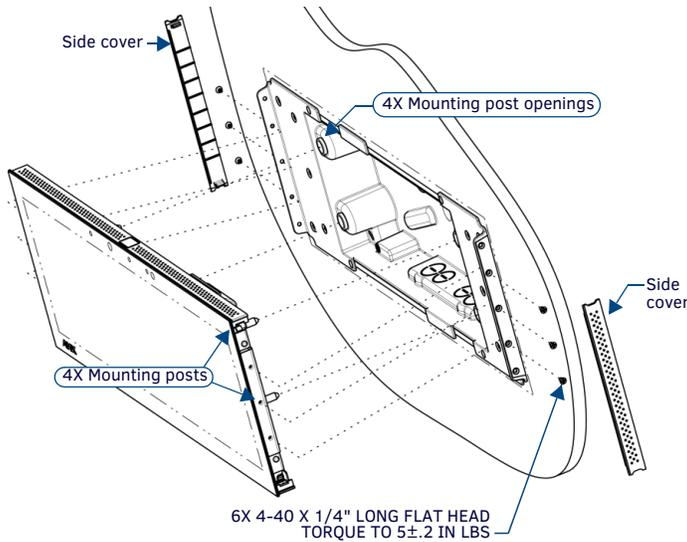

FIG. 5 MXD-1901-PAN INSTALLATION (LANDSCAPE)
- Insert the four temporary mounting posts of the panel into the openings on the Backbox and slide the panel onto the Backbox. This will temporarily hold the panel during the rest of the installation (FIG. 5).
- Use the six provided screws, three at each end, to secure the touch panel to the Backbox (FIG. 5). Use only the provided screws, as other screws may damage the touch panel.